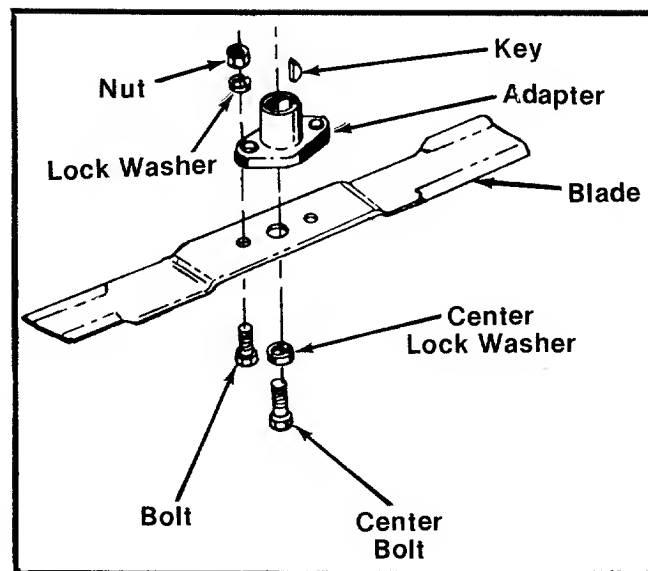

FIGURE 20.
3. Be careful not to lose the key on the crankshaft. See figure 20.
4. Remove the two smaller bolts, lock washers and nuts holding the blade to the adapter. See figure 20.